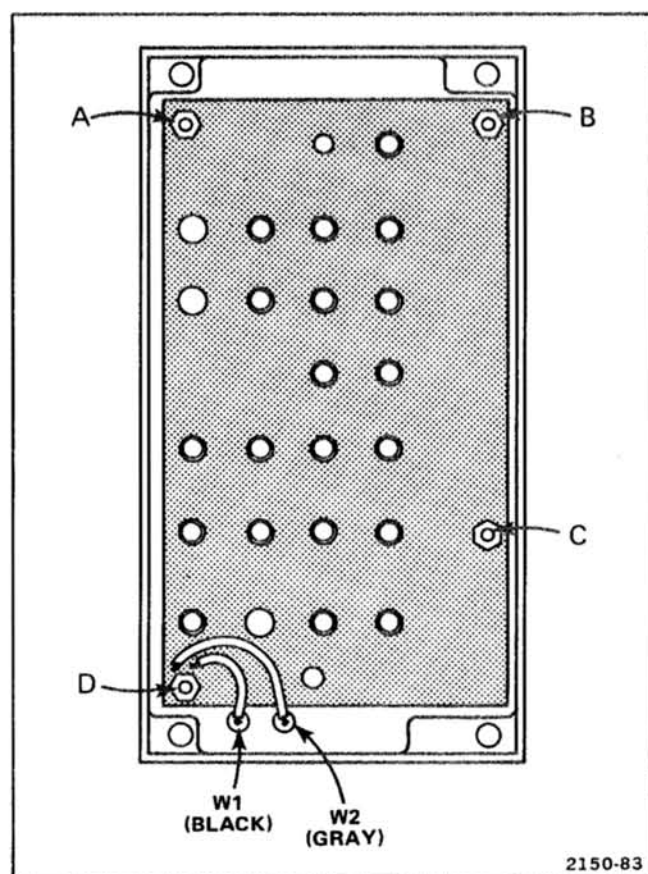

Figure 4-7. Locations of hex securing spacers and wiring to be disconnected on A1 Formatter Keyboard circuit board.
2. Disconnect 2 wires (W1 and W2 on Fig. 4-7). Remove 4 hexagonal spacers (A, B, C, and D on Fig. 4-7), and lift board away from front sub-panel.